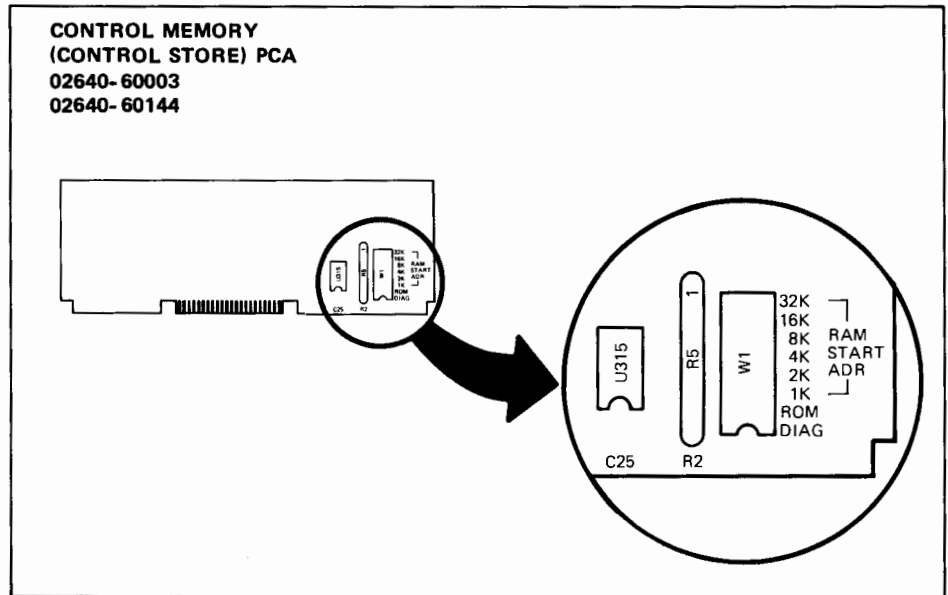

Figure 3-8. Control Memory (Control Store) PCA Strapping Locations (2640A, B, N, and S Terminals)
- For 2640A, B, N, and S terminals, strap the Control Memory (Control Store) PCA to indicate the starting address of the 1K of RAM memory contained on it. The starting address is indicated by summing the labels (4K, 8K, 16K, and 32K) of the empty jumper locations (figure 3-8). Note that the lower limit of RAM memory for these terminals is 8K. Therefore, if all the memory space between the lower (8K) and upper limit (16K) is occupied, the 1K of RAM on the Control Memory cannot be used and the strapping locations for it must be empty of jumpers.